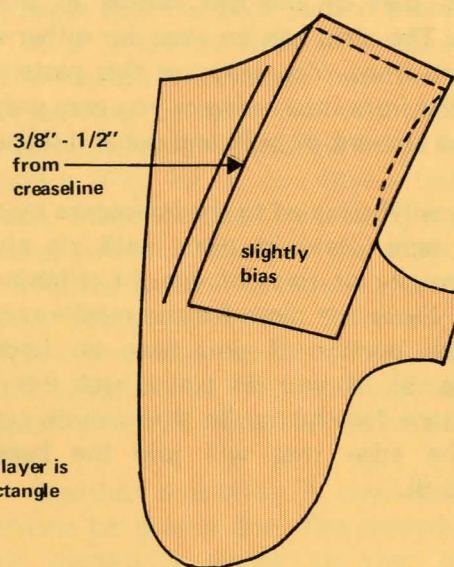

Fig. 8. 2nd layer is a rectangle
2. The second layer is a rectangle, approximately 12" to 15" long and 7" to 8" wide. This piece is also cut from the canvas. Cut the rectangle with the long dimension on the lengthwise grain of the fabric. Lay this rectangle with the long edge parallel to and  $\frac{3}{8}$ " to  $\frac{1}{2}$ " from the creaseline marked on the first layer (Fig. 8).